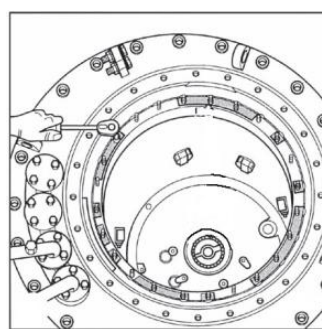

Figure 20
- (6) Remove the fixing nut (17 M8 nuts, No. 13 wrench) in the red paint mark area of the head flange and lift the switch head from the support flange (Figure 20). Be careful not to damage the O-ring. Place the switch head flange on a flat surface with clean oil paper for use.